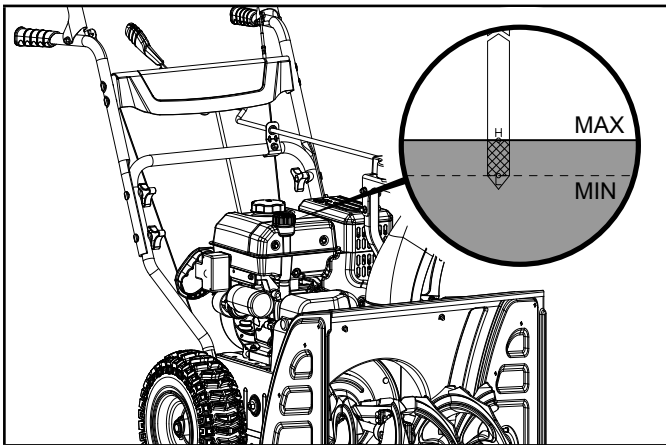

Figure 23
4. With the engine in a level position, fill to the upper limit mark on the dipstick with the recommended oil (OW-30) (Fig. 23).